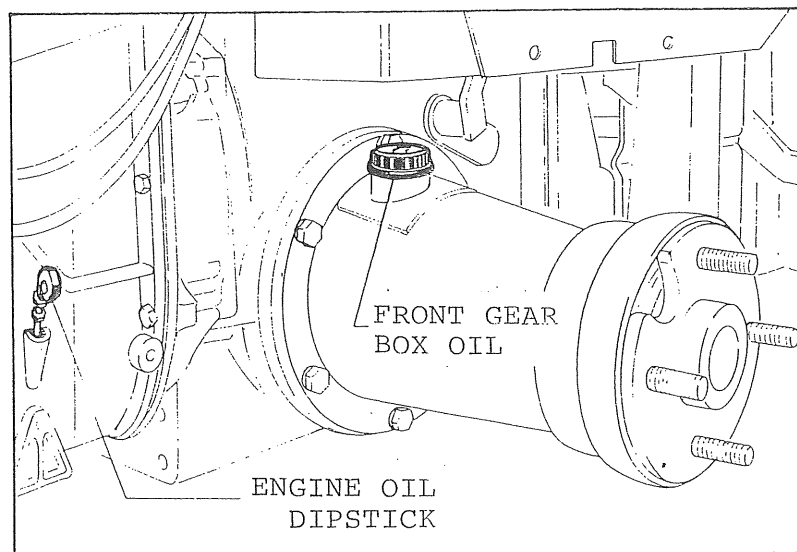

Fig. 2
Engine: Check engine lubricating oil using the dip stick located on the left hand side of the tractor. If it is low, fill to the max level position.(Fig 2)
1. Oil level in the front transmission. Fig 2.